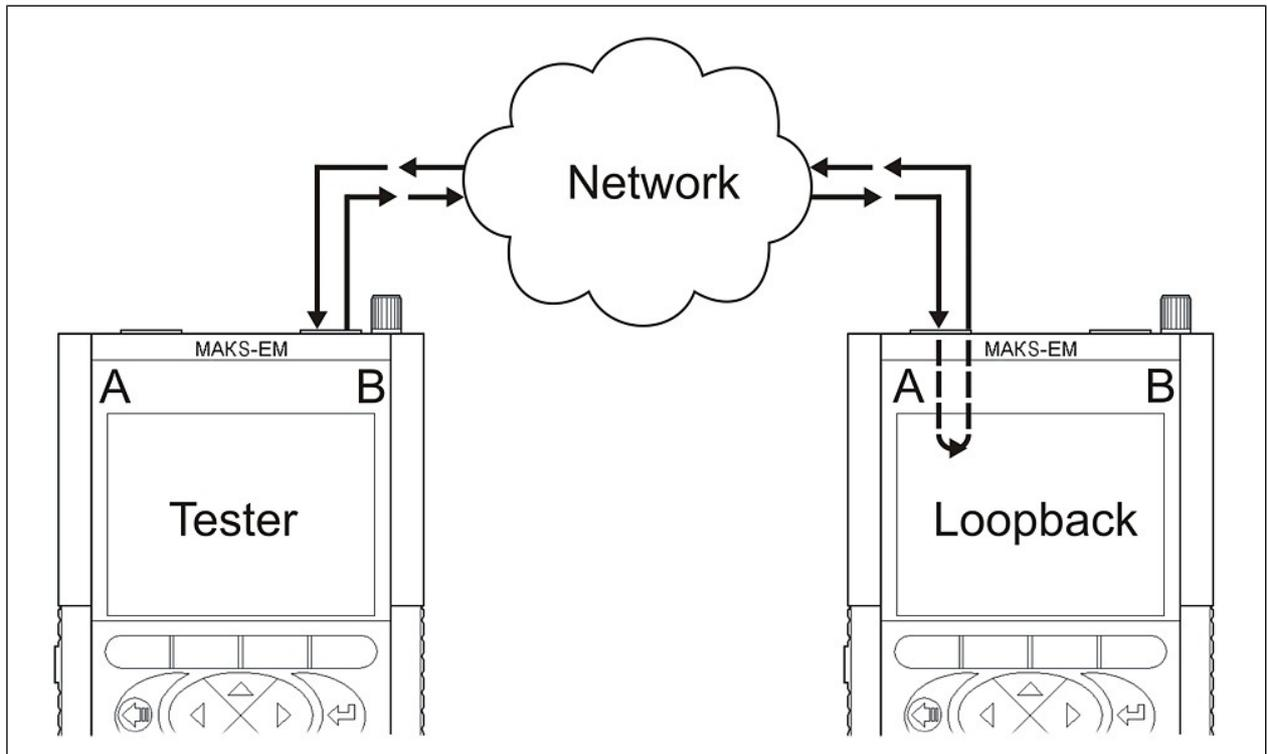
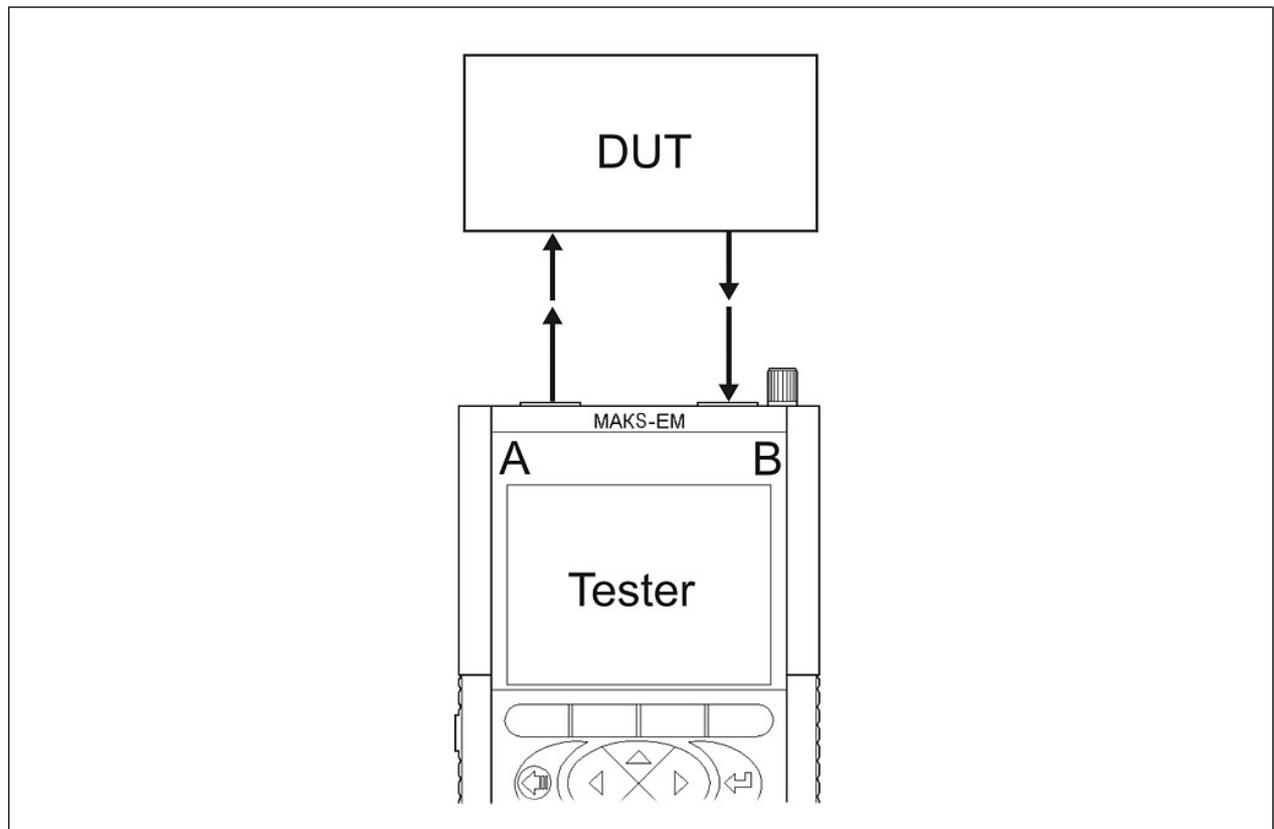

Figure 10.6.1 Tester Connection in Test Mode, Variant A
Figure 10.6.2 Tester Connection in Test Mode, Variant B
Tests with traffic generation are the following: “**Traffic Test**”, “**RFC 2544**”, “**Packet Jitter**”, “**BERT**”, “**Multistream**”. In order to run these tests, the Tester must be connected either to network section or DUT according to the two connection diagrams (A and B) illustrated in Figures 10.6.1 and 10.6.2.
When a network section looped up according to Variant A (see Figure 10.6.1) is tested, it is necessary to activate Level 1 loopback at the remote point.
- **Latency.** Evaluation of time slot during which a frame is transmitted from source to destination and back in accordance with the diagram illustrated in Figure 10.6.1. This value is called round-trip delay. When data is transmitted from one port to another according to test pattern presented in Figure 10.6.2, only one-way delay is measured. Default setting suggests fulfillment of 30 tests regarding whose results average delay is calculated.
- **Back-to-back.** Time slot needed to manage maximum load is determined. Test pattern is illustrated in Figure 10.6.2. It is mostly used to test such network devices as multiplexers, commutator switches and routers.